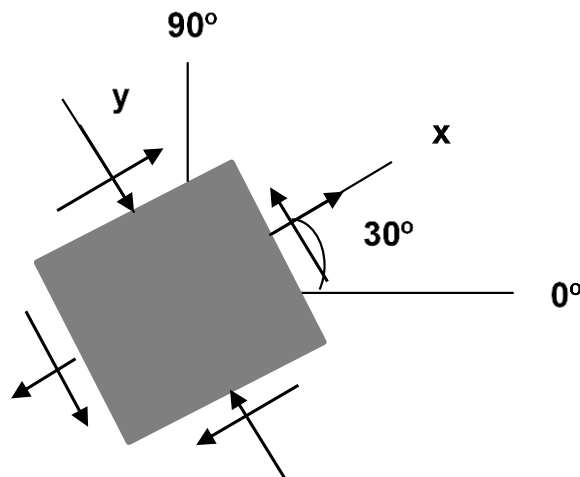

Figure 6
5. Determine the equivalent state of stress on an element at the same point for the following cases with respect to the element shown in **Figure 6** using Mohr's circle. Nominal stress in x and y directions are 300 N/mm² and 400 N/mm², respectively, while shear stress is 400 N/mm².